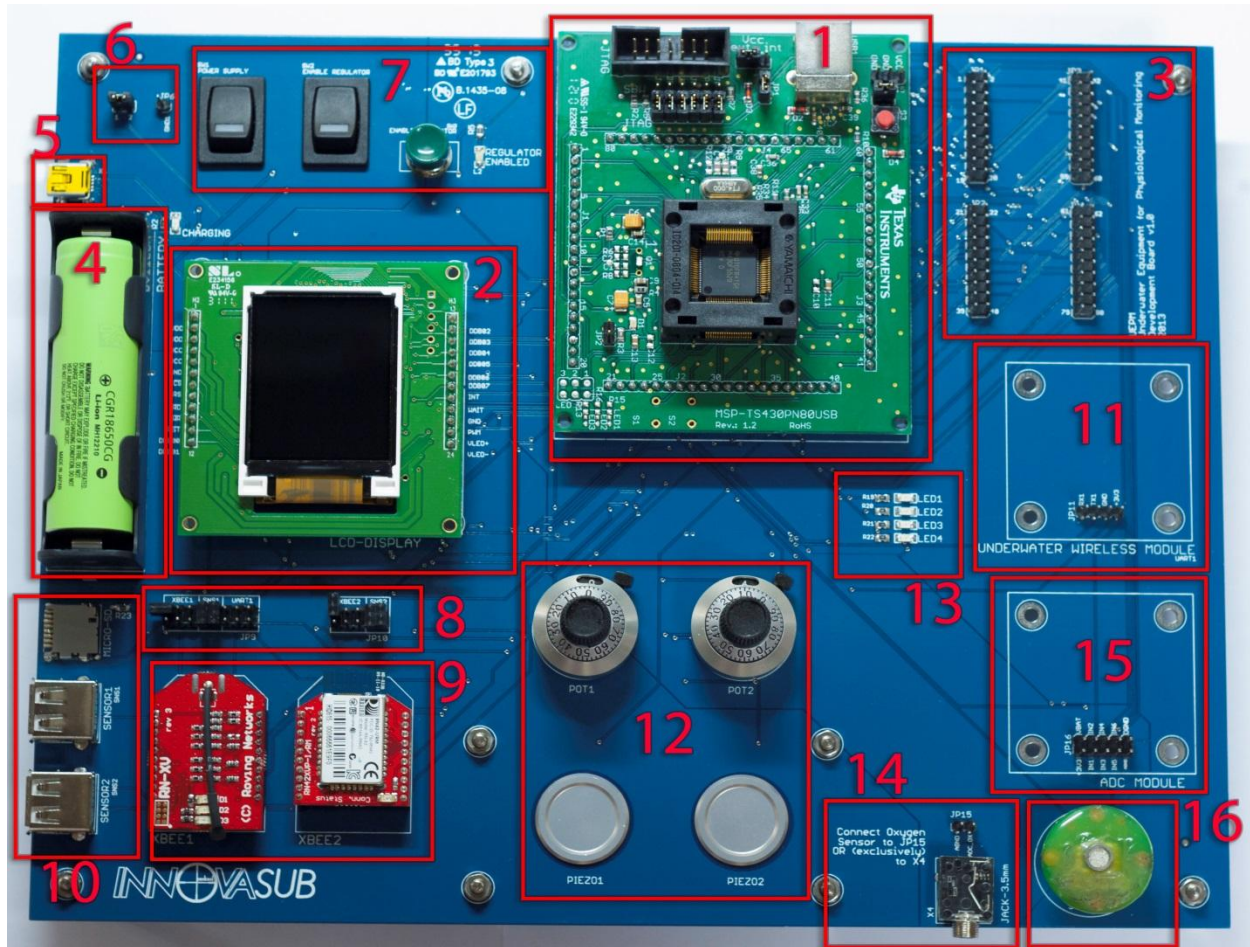

Figure 1 – Board Overview
6. **CAUTION!** USB connections 5 and 10 shown in Figure 1 **Hata! Başvuru kaynağı bulunamadı.** are not standard USB compliant. You should only connect sensors delivered with the UEPM Development Board to these connections. Otherwise you could damage the device and this would void the warranty.